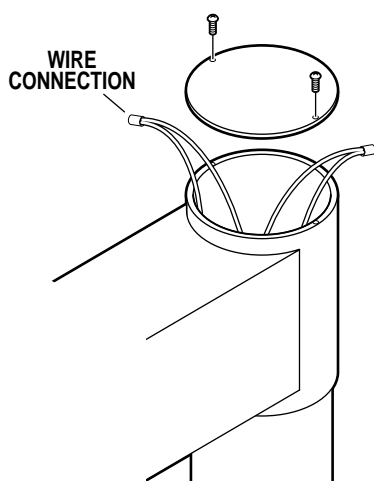

Figure 2-14. Bulb Voltage Test
a. Remove top cover from VST end of radial arm and test bulb voltage at the wire connections. Turn main power "ON" and set the Dimmer Control for the lighthead being tested to maximum intensity for the test. Output voltage (at the connectors) should be $20\text{V} \pm 0.2\text{V}$. See figure 2-14.